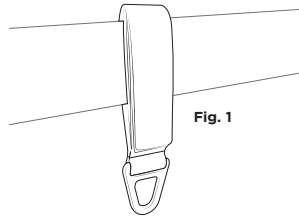

Fig. 1
2. Thread the belt through the loop of the Anchor Attachment (Fig. 1)